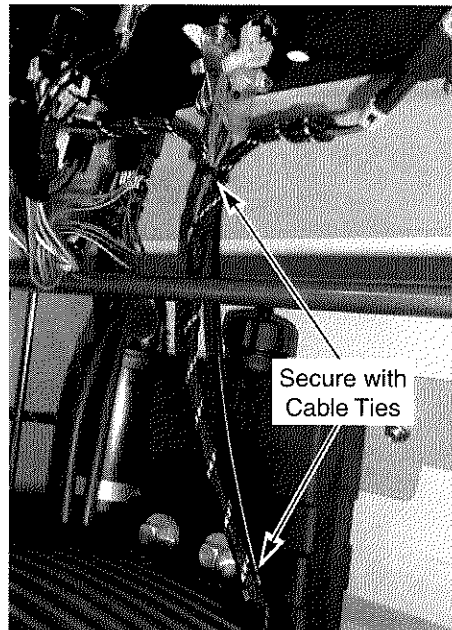

Figure 5. Route & Secure Wire Harness
6. Route the light kit wire harness as shown and secure using two (2) cable ties provided with this kit. See Figure 5.